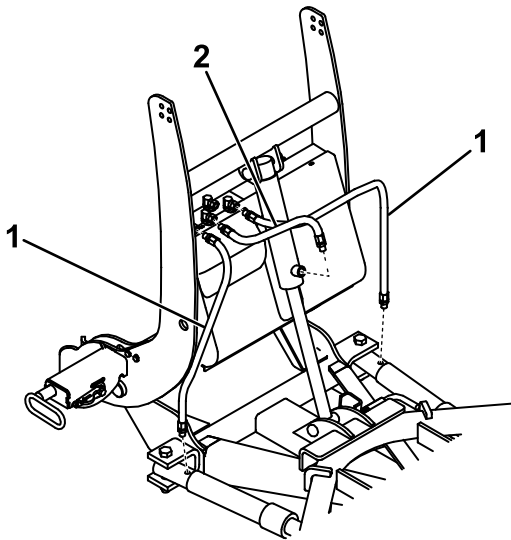

Figure 10
1. Install a swivel fitting to the lower port on the lift cylinder (Figure 10).
2. Install the 45 cm (18 inch) hydraulic hose to the middle fitting on the hydraulic shelf and the lower fitting on the lift cylinder (Figure 10). Turn the fitting until it is finger tight, then turn it 2 to 3 more times.
4. Install the O-ring end of the 106 cm (42 inch) hydraulic hose to the port on the right angle cylinder and the other end to the right fitting on the hydraulic shelf (Figure 10). Turn the fitting until it is finger tight, then turn it 2 to 3 more times.